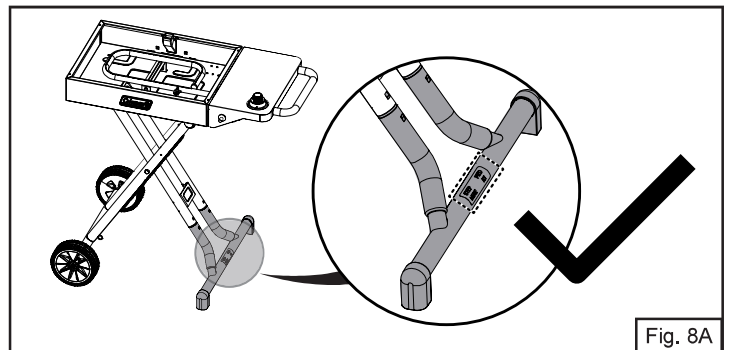
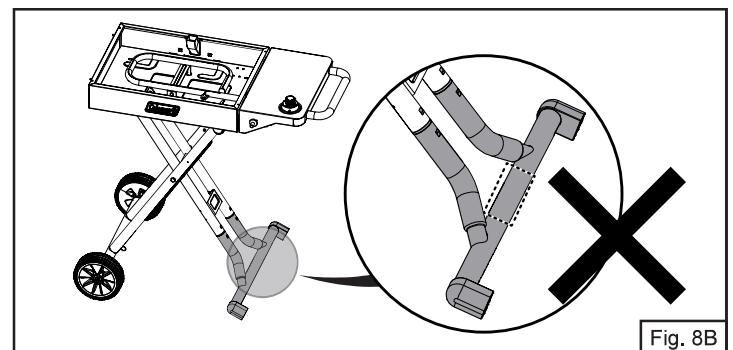

Fig. 8A
Fig. 8B
8. Turn over the appliance and make sure the towing handle is installed correctly. **NOTE:** It is correct to see the warning text facing upward (Fig. 8A). Otherwise is incorrect (Fig. 8B).